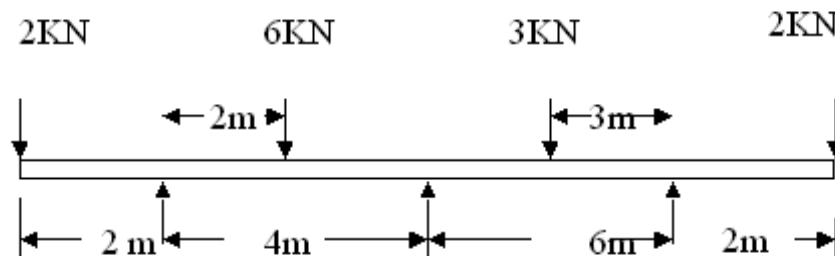

Figure 3
- A continuous overhang beam is loaded as shown in figure 3 with simple supports. Find the reactions and moments using clapeyron's theorem of three moments. [16]